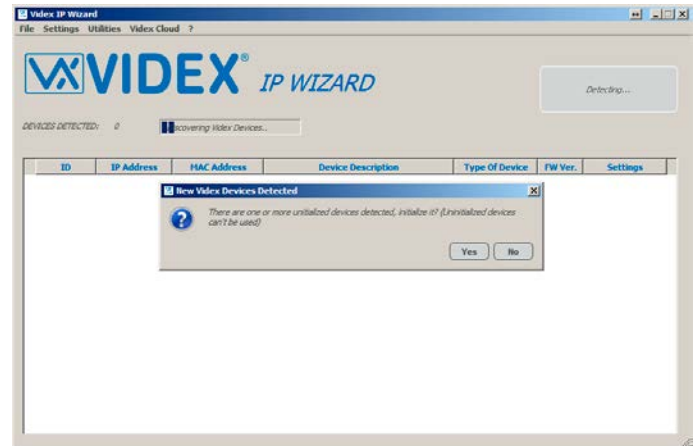
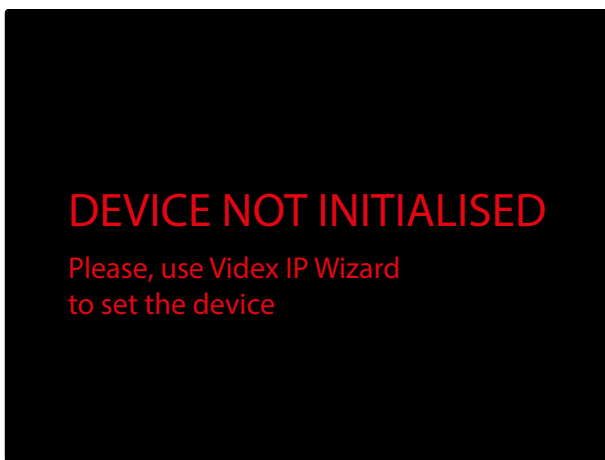

Fig. 3 New devices detected
Fig. 4 Device not initialised
- On first time installation the software shows a notice (Fig. 3) that says that there are devices not initialised and requests confirmation to initialise them. The videophones show the "DEVICE NOT INITIALISED" screen (Fig. 4).